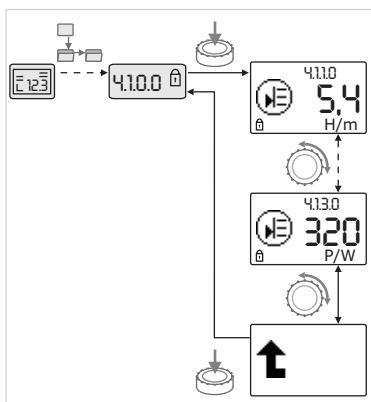

Fig. 40: Calling up information
- Turn the red button to access the “Information” menu elements in the current sub-menu (see Fig. 40). For an explanation of the settings represented by the symbols, see the table in chapter 8.7 “Menu elements reference” on page 37.